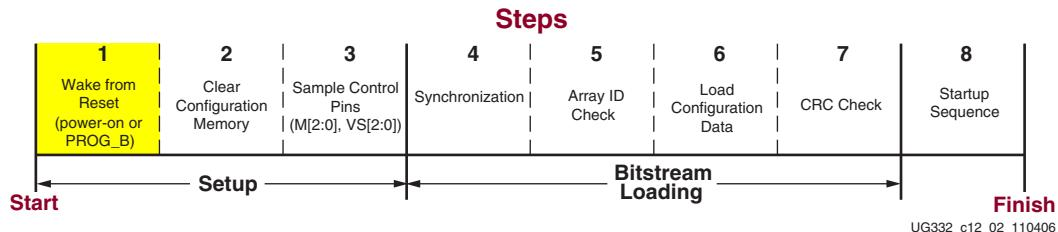

Figure 12-2: **FPGA Wake from Reset**
1. Hold the PROG_B pin Low, which holds the FPGA in reset, Step 1 shown in Figure 12-2, page 242.